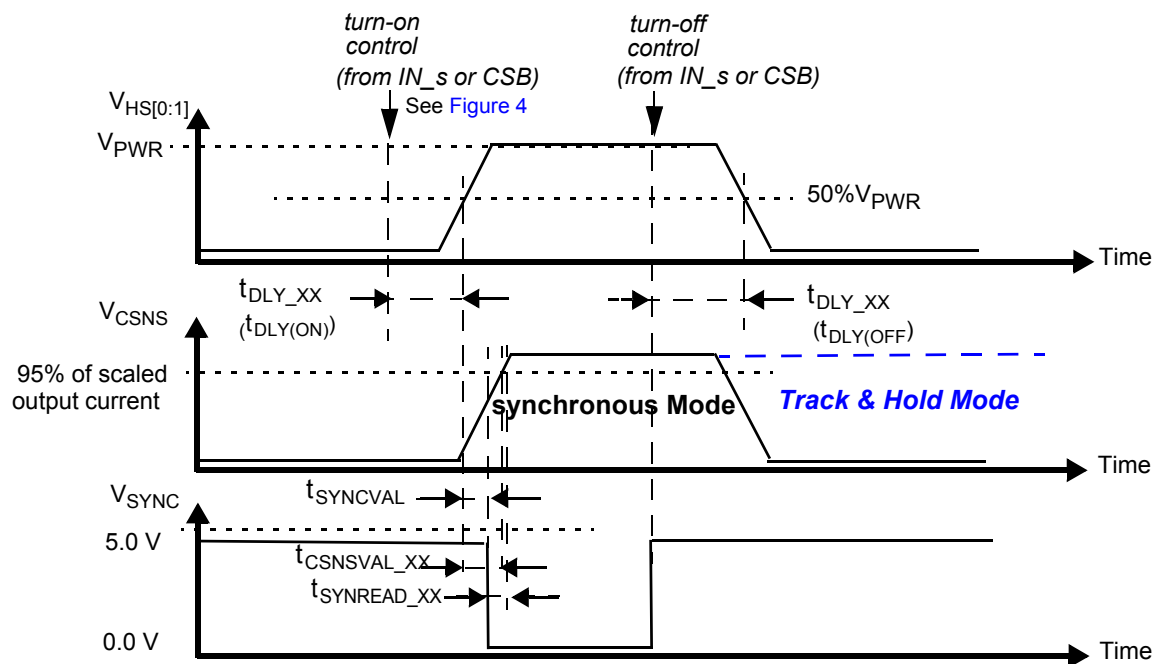

Figure 9. Synchronous and track-and-hold current sensing modes: associated delay and settling times
30. Time required to switch off the channel after detection of overtemperature (OT), overcurrent (OC), SC or UV error (time measured between start of the negative edge on the FSB pin and the falling edge on the output voltage until $V(HS[0:1]) = 50\%$ of V_{PWR}).
31. Settling time (= $t_{CSNSVAL_XX}$), SYNC output signal delay (= $t_{SYNCVAL_XX}$) and Read-out delay (= $t_{SYNREAD_XX}$) are defined for a stepped load current ($100\text{ mA} < I(\text{LOAD}) < I_{OCLX_A}$ FOR $CSNS_RATIO_S = 1$, AND $300\text{ mA} < I(\text{LOAD}) < I_{OCLX_A_0}$ FOR $CSNS_RATIO_S = 0$). (see Figure 9 and Output current monitoring \(CSNS\))
The CS pin allows independent current monitoring of channel 0 or channel 1 up to the steady-state overcurrent threshold. It can also be used to sense the device temperature. The different functions are selected by setting bits CSNS1_en and CSNS0_en to the appropriate value (Table 23). When the CSNS pin is sensed during switch-off in the (optional) track & hold mode (see Figure 9), it outputs the scaled value of the load current as it was just before turn-Off. When several devices share the same pull-down resistor, the CSNS pins of devices the current of which is not monitored must be tri-stated. This is accomplished by setting CSNS0_en = 0 and CSNS1_en = 0 in the GCR register (Table 10). Settling time ($t_{CSNSVAL_XX}$) is defined as the time between the instant at the middle of the output voltage's rising edge ($HS[0:1] = 50\%$ of V_{PWR}), and the instant at which the voltage on the CSNS-pin has settled to $\pm 5.0\%$ of its final value. Anytime an overcurrent window is active, the CSNS pin is disabled (see Overcurrent detection on resistive and inductive loads). The current and temperature sensing functions are unavailable in Fail-safe mode and in Normal mode when operating without the V_{DD} supply voltage. In order to generate a voltage output, a pull-down resistor is required ($R(CSNS) = 1.0\text{ k}\Omega$ typ. and $470 < R(CSNS) < 10\text{ k}$). When the current sense resistor connected to the CSNS pin is disconnected, the CSNS voltage is clamped to $V_{CL(CSNS)}$. The CSNS pin can source currents up to about 5.6 mA.
To synchronize current sensing with an external process, the SYNC signal can be connected to a digital input of an external MCU. SYNC is asserted logic low when the current sense signal is accurate and ready to be read. The current sense signal on the CSNS pin has the specified accuracy $t_{SYNCREAD_XX}$ seconds after the falling edge on the SYNC pin (Figure 9) and remains valid until a rising edge is generated. The rising edge that is generated by the SYNC pin at the turn-OFF instant (internal or external) may also be used to implement synchronization with the external MCU. Parameter $t_{SYNCVAL_XX}$ is defined as the time between the instant at the middle of the output-voltage rising edge ($HS[0:1] = 50\%$ of V_{PWR}), and the instant at which the voltage on the SYNC-pin drops below 0.4 V (V_{SOL}). The SYNC pins of different devices can be connected together to save μ -controller input channels. However, in this configuration, the CSNS function of only one device should be active at a time. Otherwise, the MCU does not determine the origin of the SYNC signal. The SYNC pin is open drain and requires an external pull-up resistor to VDD.